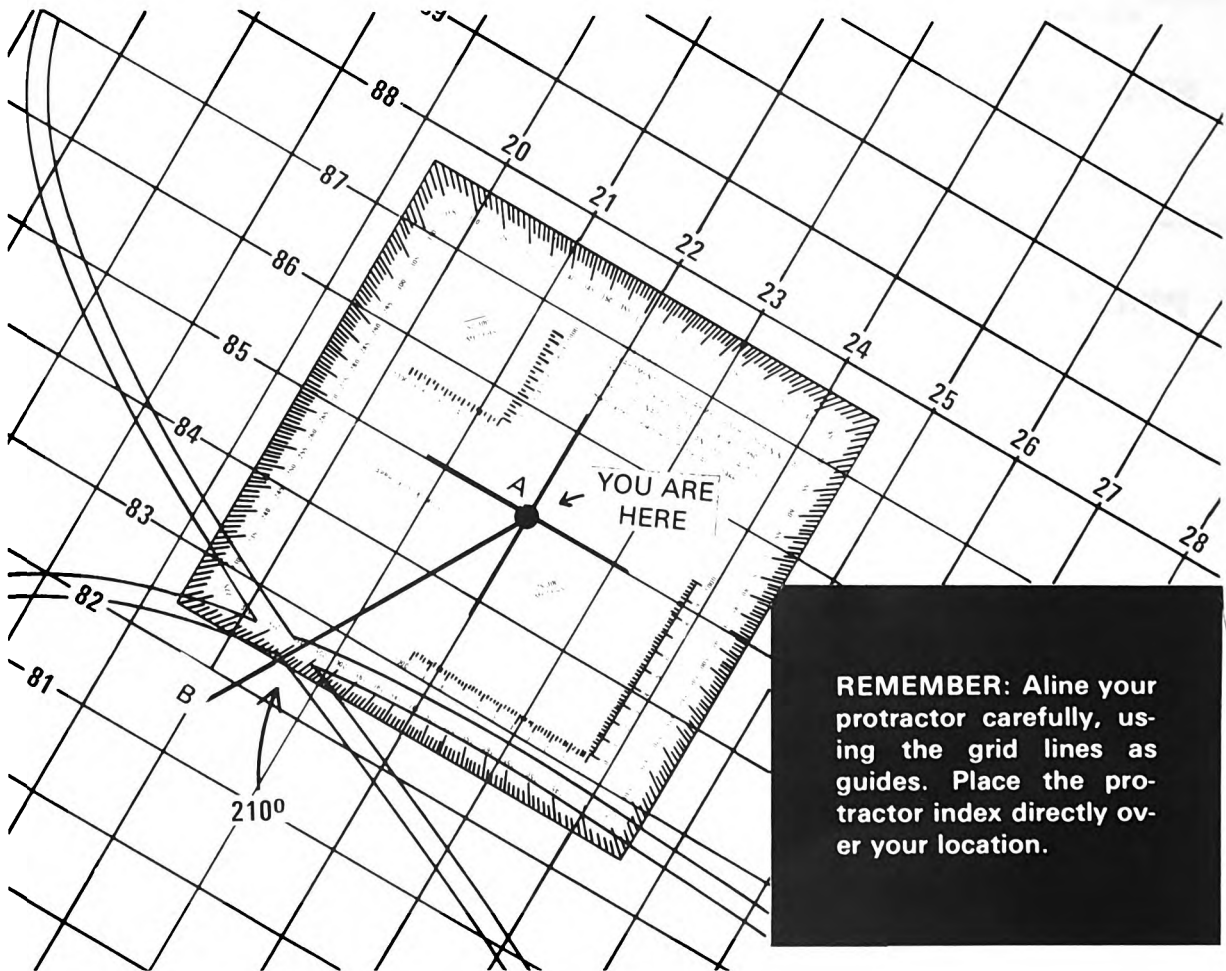

Figure 1.
- a. Determine your location (Point A) and the location of the other point (B) on the map (see figure 1).
Suppose you follow the 210-degree azimuth in figure 1 to the road junction, and then want to go back to your original location. To do this, you take a **BACK AZIMUTH**. You simply subtract 180 from the first azimuth. Your back azimuth is $210 - 180 = 30$ degrees.